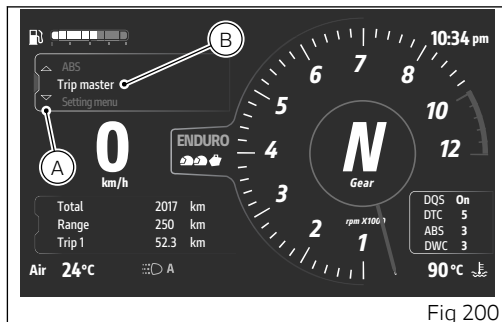

Fig 200
- Select the Interactive Menu (A, Fig 200) by pressing and holding the joystick in position ▲ for a long time.
- Use the joystick ▲ ▼ to select "Trip master" (B, Fig 200) and press ENTER.